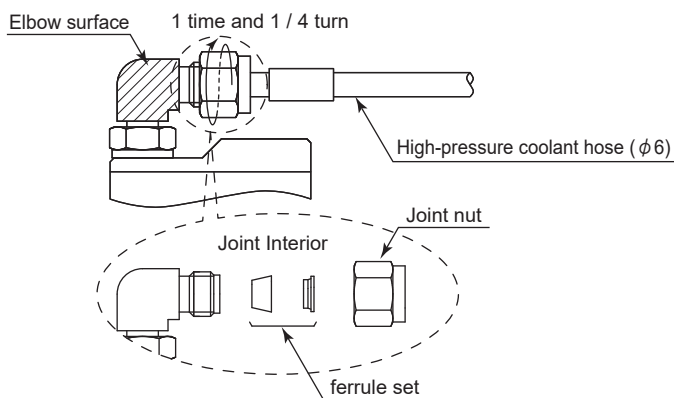

Fig. 22
- (2) Fit an adjustable wrench on the elbow surface (shaded area) of the high-pressure coolant fitting to hold it in place, and use another adjustable wrench to tighten the joint nut 1 - 1 / 4 turns. (Fig. 22)